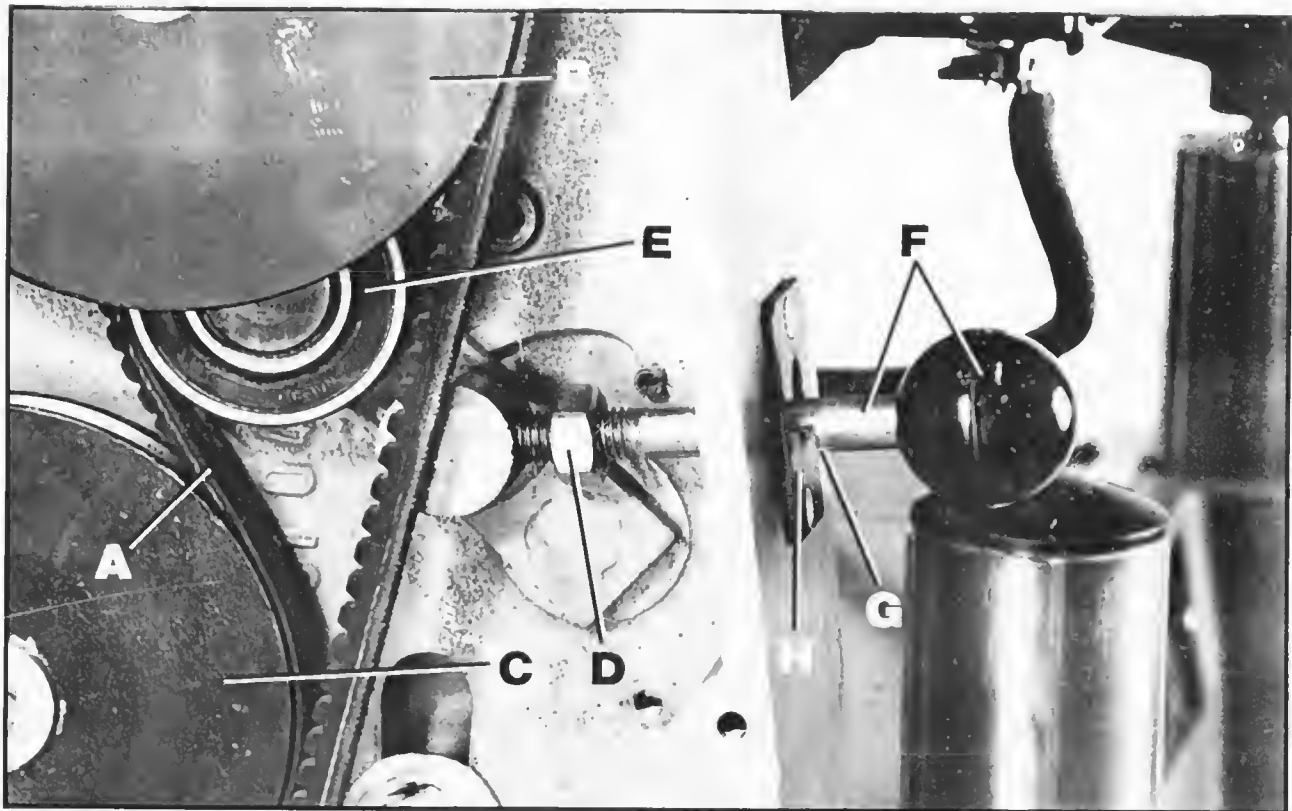

Fig. 14
1. Make certain belt (A) Fig. 14, is on the inside groove of motor pulley (B) and groove of gear box pulley (C).
2. Loosen nut (D) Fig. 14.
3. Make certain bearing (E) Fig. 14, is engaged with the outside surface of belt (A) and push in feed roll engagement lever (F) until notch (G) on lever is engaged with plate (H), as shown. **IMPORTANT:** The object is to remove all slack from gear box belt (A). Only "very light tension" is required on belt (A). To increase belt tension, turn lever (F) counterclockwise. To decrease belt tension, turn lever (F) clockwise making certain notch (G) remains on the bottom of lever (F) so it can engage with plate (H). Then tighten nut (D).